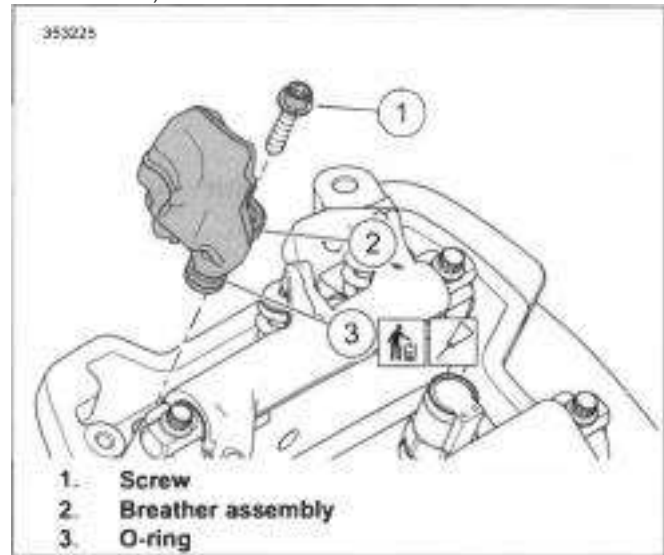

Figure 4-20. Breather
See Figure 4-20. Lubricate O-ring (3).
1. See Figure 4-20 . Remove screw (1).
2. Remove breather assembly (2).